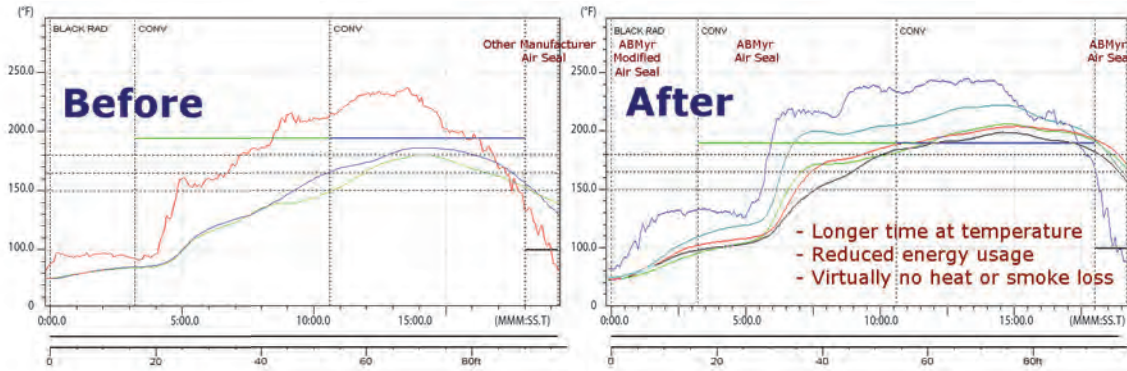

Figure 1. An oven temperature profile before and after the installation of an Air Barrier heat seal.
- **Longer time at temperature.** An effective heat seal system causes the product to heat up faster, thus increasing oven efficiency. It also maximizes the part’s time at temperature, thus enabling greater production rates, shorter oven lengths and reduced oven temperatures (see Figure 1).